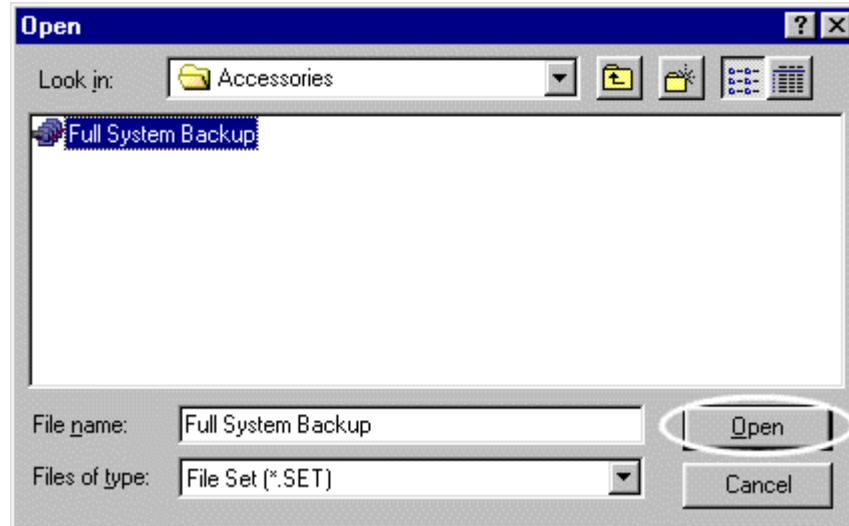

Figure 20 Backup Open Dialog
- Click on **Full System Backup.Set** and then click on **Open** (see Figure 20).